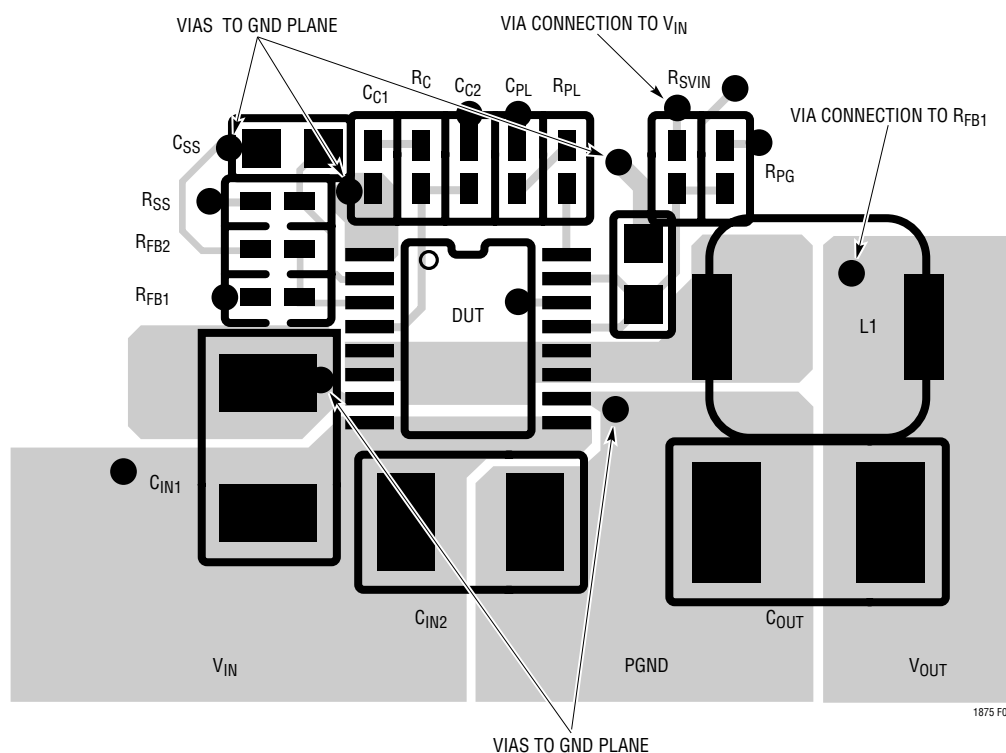

Figure 8. Typical Application and Suggested Layout (Topside Only)
As with all high frequency switchers, when considering layout, care must be taken in order to achieve optimal electrical, thermal and noise performance. Figure 8 is a sample of PC board layout for the design example shown in Figure 9. A 4-layer PC board is used in this design. Several guidelines are followed in this layout:
4. Place the small-signal components away from high frequency switching nodes. In the layout shown in Figure 8, all of the small-signal components have been placed on one side of the IC and all of the power components have been placed on the other.